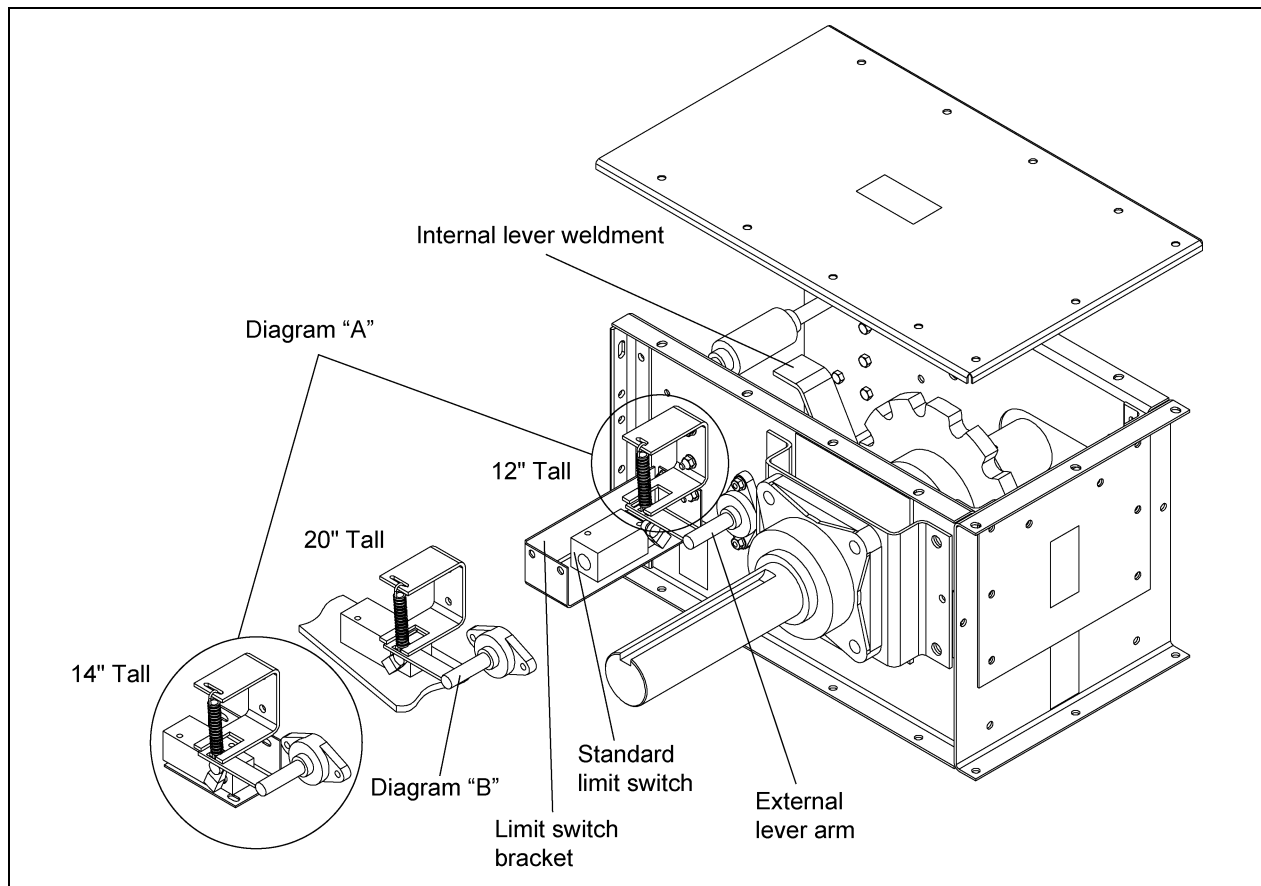

Figure 10D
Next, remove the two (2) cover plates from the sides of the head section. Attach the two (2) bearings to the sides of the head section. Insert the lever arm weldment through the internal lever weldment and both bearings as shown *in Figure 10D*. Remove any paint, scale or rust from the lever arm weldment rod before assembling. **The internal lever weldment must face away from the head sprocket as shown in the *Figure 10D*.**
Attach limit switch bracket to conveyor head section. Note the orientation of the limit switch brackets as illustrated in the *Diagram A in Figure 10D*. Also, please note that some 20" tall conveyors will not use the limit switch clips. The limit switch may be attached directly to pre-punched holes in the bearing plate gussets. (*See Diagram B in Figure 10D.*)
A standard limit switch is shown *in Figure 10D*. An explosion proof limit switch should be used in extremely dirty or dusty conditions, and/or in enclosed environments.